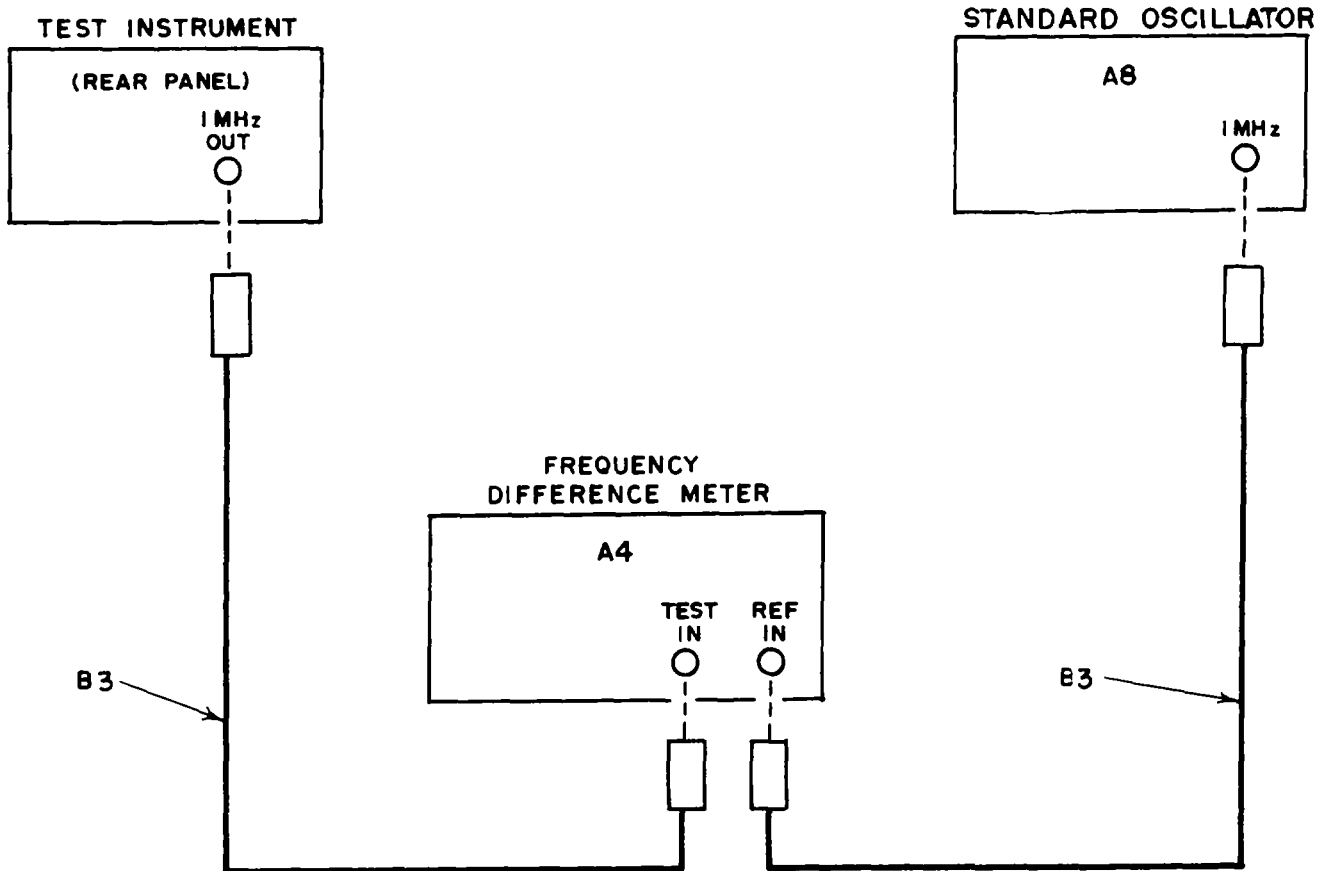

Figure 1. Time base check-equipment setup
(1) Connect equipment as shown in figure 1.